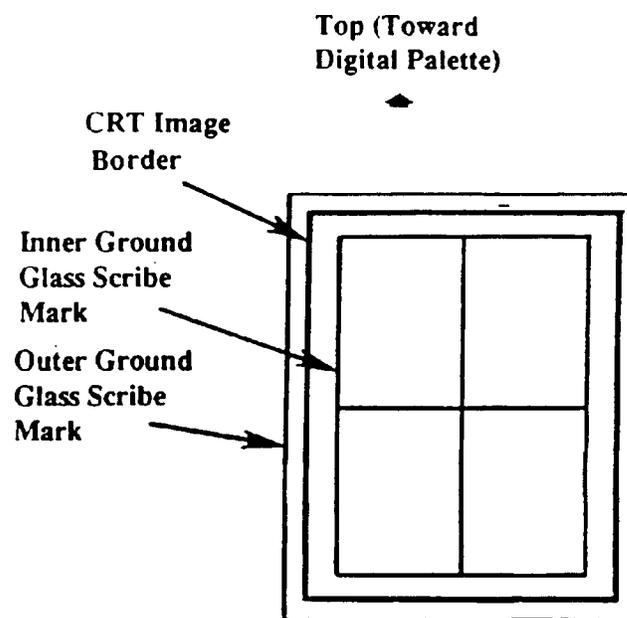

Figure 4-5 Correct alignment of displayed image with gauge lines
9. The displayed image should coincide with the scribed lines in the center of the gauge. The outside image lines should fall within the two scribed lines along the perimeter of the gauge (see Figure 4-5).
4. When the pattern meets the conditions shown in Figure 4-5, tighten the mounting screws and replace the CI-5000 cover.
5. After tightening the mounting screws, recheck the image alignment with the template (refer to Figure 4-5).